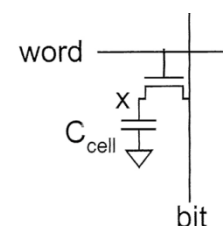

Fig. 14
14. Consider the DRAM cell in Fig. 14 with  $C_{\text{cell}} = 50\text{fF}$  and  $C_{\text{bit}} = 500\text{fF}$ . (5%)